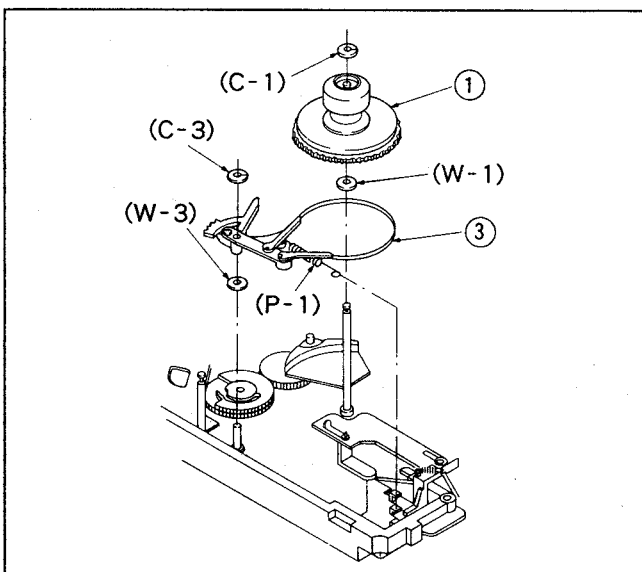

Fig. M3
- 2) Remove the supply reel table C-ring and supply reel table. See Fig. M3.